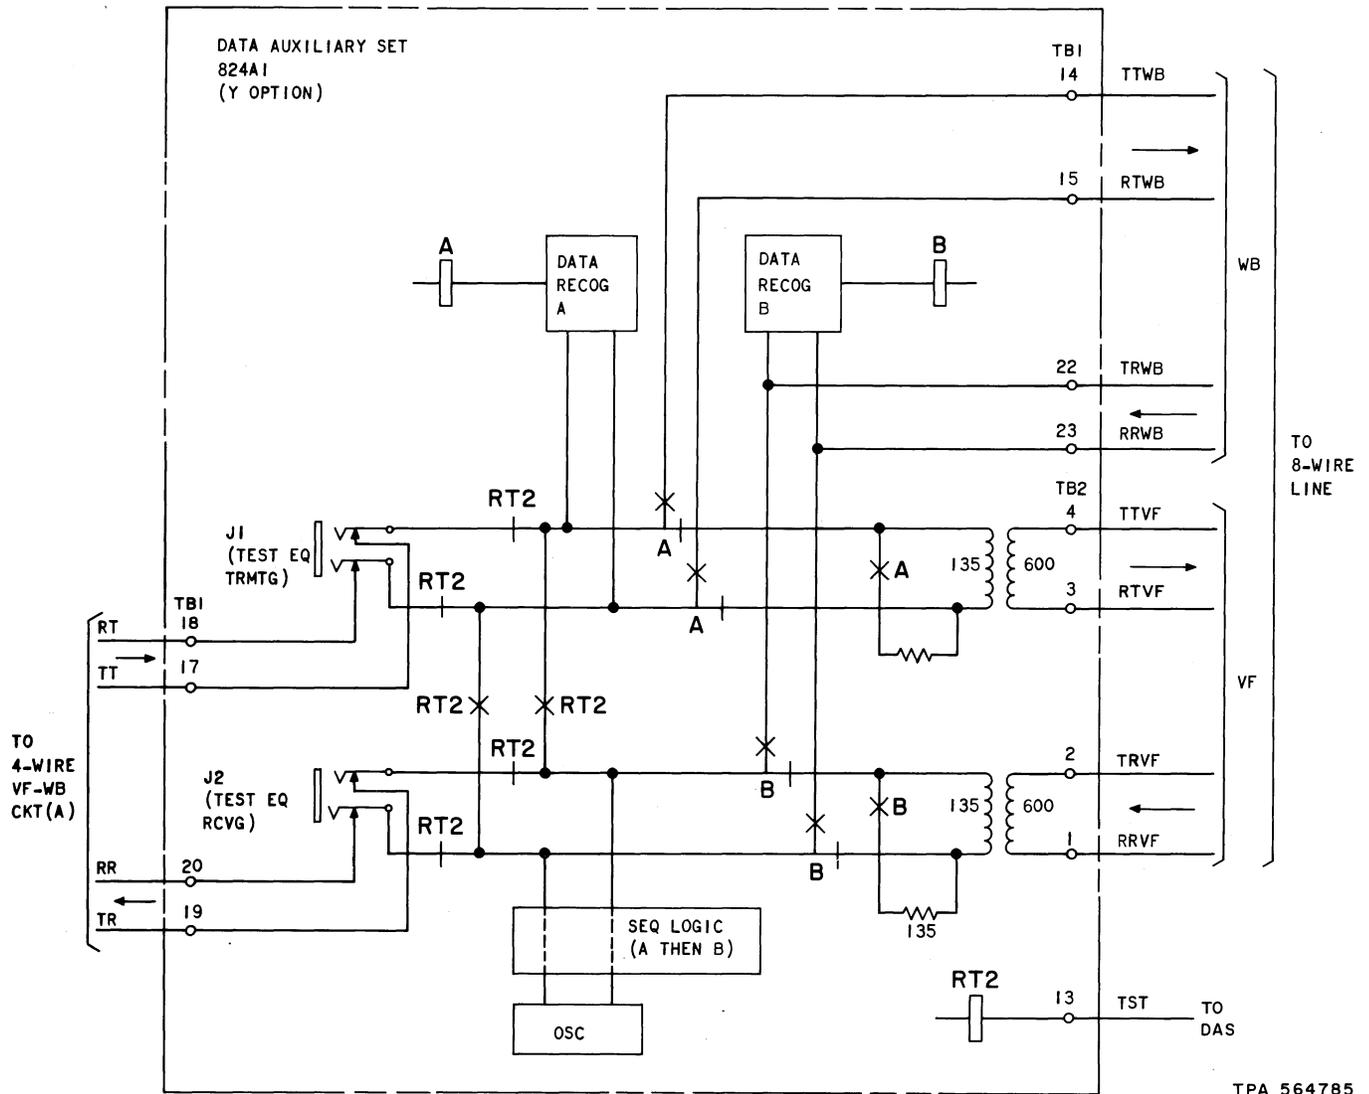

Fig. 6—Four-Wire Voice Frequency—Wideband Circuit to Eight-Wire Line With 50-KBPS Oscillator (Option Y)
**Oscillator (Option Y):** Provides the 4-wire to 8-wire switching function of the Z option and, in addition, simulates a digital response necessary to keep certain customer equipment from timing out ("fooler"). Refer to Fig. 6. Provides a means for sending a 50-kilobit dotting signal (25-kilohertz rectangular wave) which is returned to the originating station to simulate data in order to hold the customer's equipment on line until a data signal is returned from the far end.